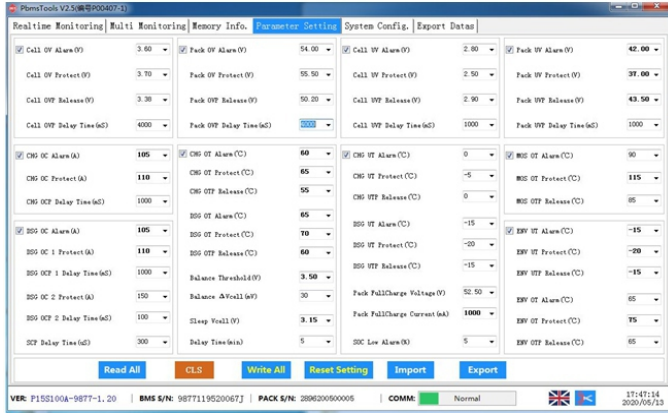

Figure 24: Parameter Settings
(5) In the Parameter Settings (As shown figure 24), this page shows the BMS parameters.